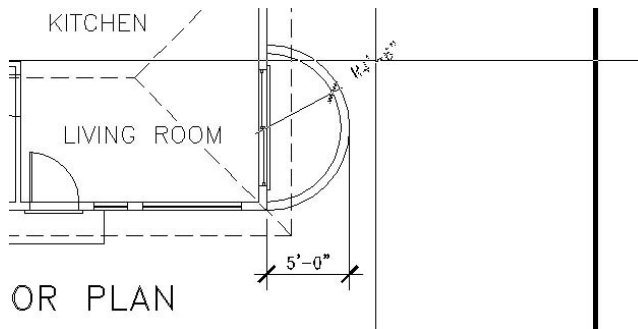

FIGURE 11.23: The radial dimension initially positioned in the arc
3. Click the inside arc of the balcony a slight distance above the midpoint. The radial dimension appears in ghosted form. Its angle of orientation is determined by where you pick the arc. The dimension text then stays attached to the cursor (see Figure 11.23).